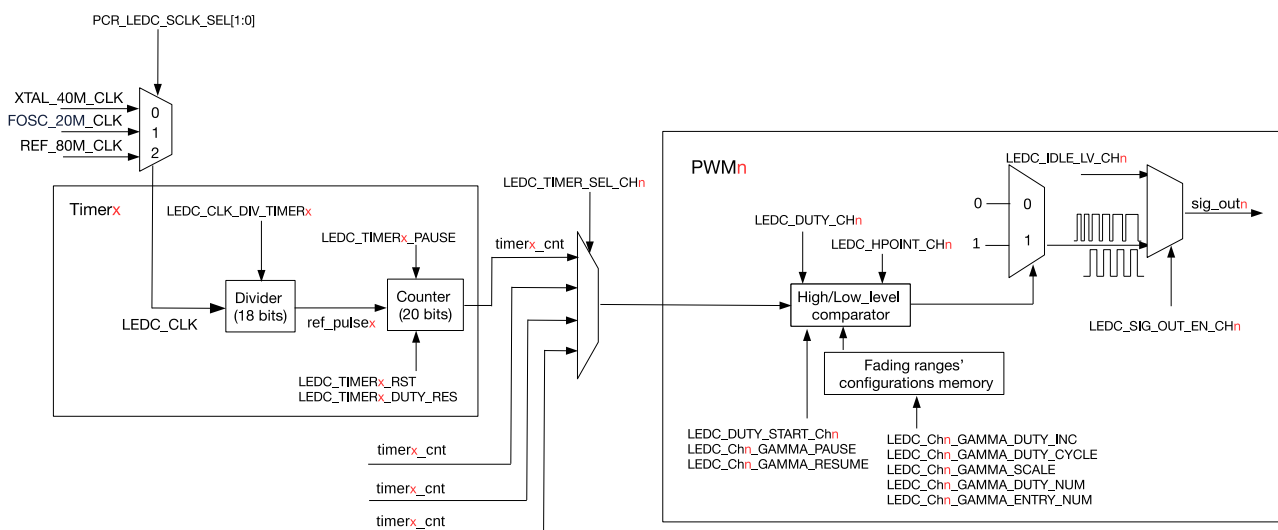
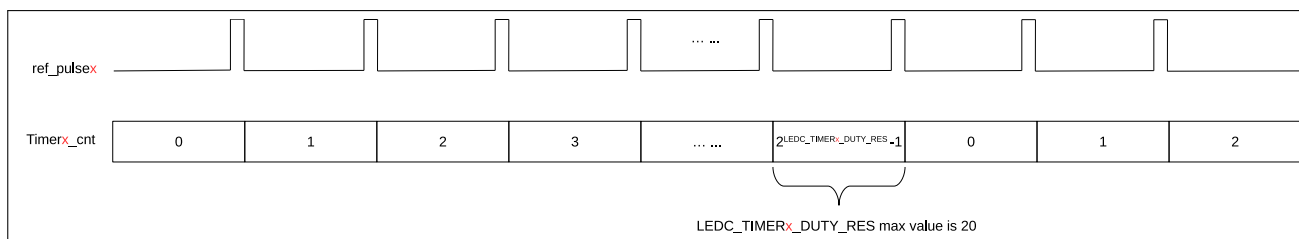

Figure 28.3-2. Timer and PWM Generator Block Diagram
Figure 28.4-2. Relationship Between Counter And Resolution
Figure 28.3-2 illustrates the main functional blocks of the timer and the PWM generator.
Each timer in LED PWM Controller internally maintains a timebase counter. Referring to Figure 28.3-2, this clock signal used by the timebase counter is named `ref_pulsex`. All timers use the same clock source `LEDC_CLK`, which is then passed through a clock divider to generate `ref_pulsex` for the counter.
The LEDC_CLK signal is passed through a clock divider to generate the `ref_pulsex` signal for the counter. The frequency of `ref_pulsex` is equal to the frequency of LEDC_CLK divided by the divisor LEDC_CLK_DIV (see Figure 28.3-2).
Each timer contains a 20-bit timebase counter that uses `ref_pulsex` as its reference clock (see Figure 28.3-2). The `LEDC_TIMERx_DUTY_RES` field configures the actual used bit width of this 20-bit counter. Hence, the maximum resolution of the PWM signal is 20 bits. The counter counts up to $2^{\text{LEDC\_TIMERx\_DUTY\_RES}} - 1$, overflows and begins counting from 0 again. The counter's value can be read, reset, and suspended by software. Figure 28.4-2 shows the relationship between the counter and PWM resolution.
Referring to Figure 28.3-2, the frequency of a PWM generator output signal (`sig_outn`) is dependent on the frequency of the timer's clock source `LEDC_CLK`, the clock divisor `LEDC_CLK_DIV`, and the duty resolution (counter width) `LEDC_TIMERx_DUTY_RES`:
As shown in Figure 28.3-2, each PWM generator has a comparator and two multiplexers. A PWM generator compares the timer's 20-bit counter value (`Timerx_cnt`) to two trigger values `Hpointn` and `Lpointn`. When the timer's counter value is equal to `Hpointn` or `Lpointn`, the PWM signal is high or low, respectively, as described below:
- `LEDC_TASK_SIG_OUT_DIS_CH $n$` : If the `LEDC_TASK_SIG_OUT_DIS_CH $n$ _EN` field is enabled, upon receiving the `LEDC_TASK_SIG_OUT_DIS_CH $n$` task, PWM n 's signal output is disabled, and the output signal (sig_out n) outputs a constant level as specified by field `LEDC_IDLE_LV_CH $n$` , as shown in Figure 28.3-2.